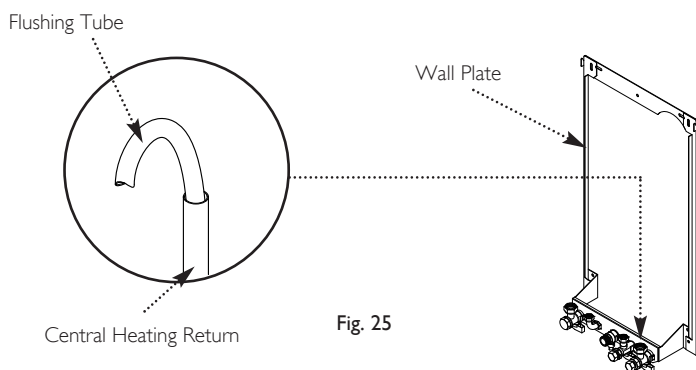

Fig. 25
1. Connect a tube to the central heating flow or return pipe (Fig. 25).